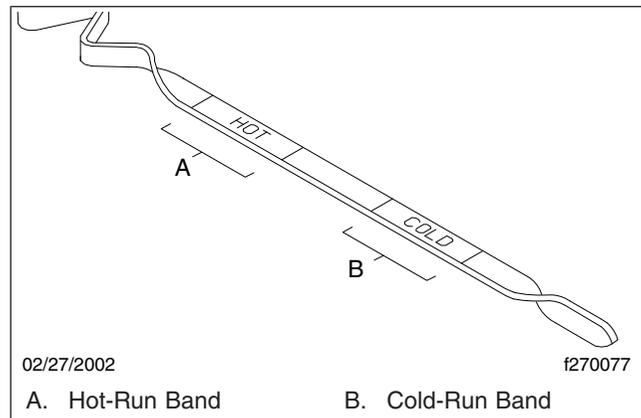

Fig. 12.4, Automatic Transmission Dipstick Markings
- 7.3 Wipe the dipstick clean and check the fluid level. A safe operating level is any level within the HOT-run (upper) band on the dipstick. See Fig. 12.4.